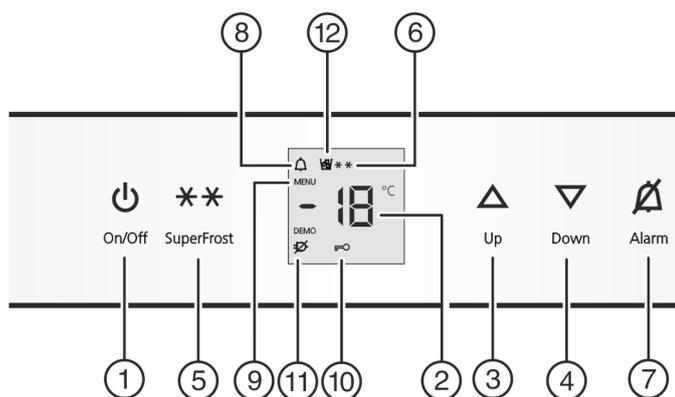

Fig. 2
- Press On/Off button *Fig. 2 (1)*.
- To activate the setting mode: press SuperFrost button *Fig. 2 (5)* for about 5 s.
- ▷ The menu symbol *Fig. 2 (9)* shines.
- Briefly press the SuperFrost button *Fig. 2 (5)* to confirm.
- To activate the child lock, briefly press the SuperFrost button *Fig. 2 (5)*.
- ▷ The child lock symbol *Fig. 2 (10)* shines. **c** flashes in the display.
- to deactivate the child lock, briefly press the SuperFrost button *Fig. 2 (5)*.
- ▷ The child lock symbol *Fig. 2 (10)* goes out. **c** flashes in the display.
- To deactivate the set-up mode: press On/Off button *Fig. 2 (1)*.
- Press alarm button *Fig. 2 (7)*.
The temperature display and the alarm symbol *Fig. 2 (8)* flash at the same time.
The audible alarm is automatically silenced, the alarm symbol *Fig. 2 (8)* goes out and the temperature display stops flashing when the temperature is sufficiently cold again.
- ▶ Press alarm button *Fig. 2 (7)*.
- ▶ To set the temperature higher: press Up button *Fig. 2 (3)*.
- ▶ To set the temperature lower: press Down button *Fig. 2 (4)*.